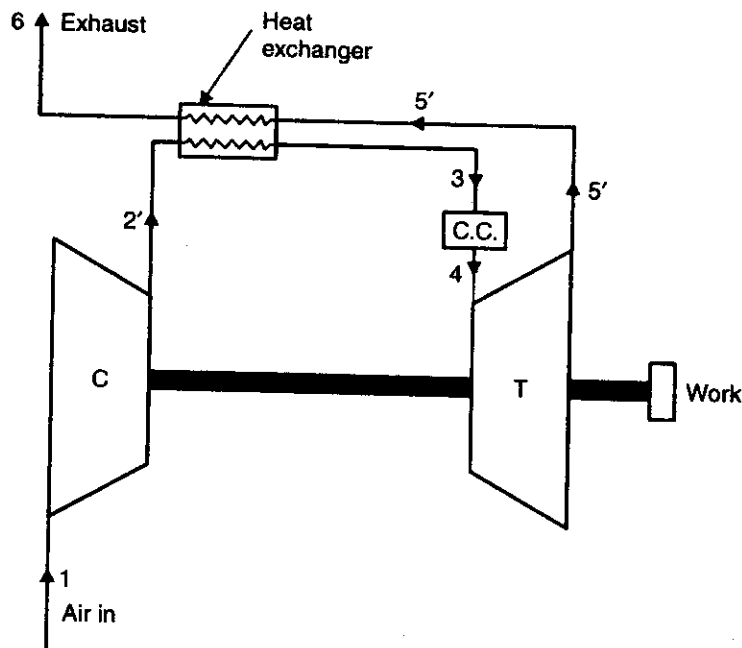

Fig. 5.9. Gas turbine with regenerator.
3. Regeneration. The exhaust gases from a gas turbine carry a large quantity of heat with them since their temperature is far above the ambient temperature. They can be used to heat the air coming from the compressor thereby reducing the mass of fuel supplied in the combustion chamber. Fig. 5.9 shows a gas turbine plant with a regenerator. The corresponding $T-s$ diagram is shown in Fig. 5.10. 2'-3 represents the heat flow into the compressed air during its passage through the heat exchanger and 3-4 represents the heat taken in from the combustion of fuel. Point 6 represents the temperature of exhaust gases at discharge from the heat exchanger. The maximum temperature to which the air could be heated in the heat exchanger is ideally that of exhaust gases, but less than this is obtained in practice because a temperature gradient must exist for an unassisted transfer of energy. The effectiveness of the heat exchanger is given by :